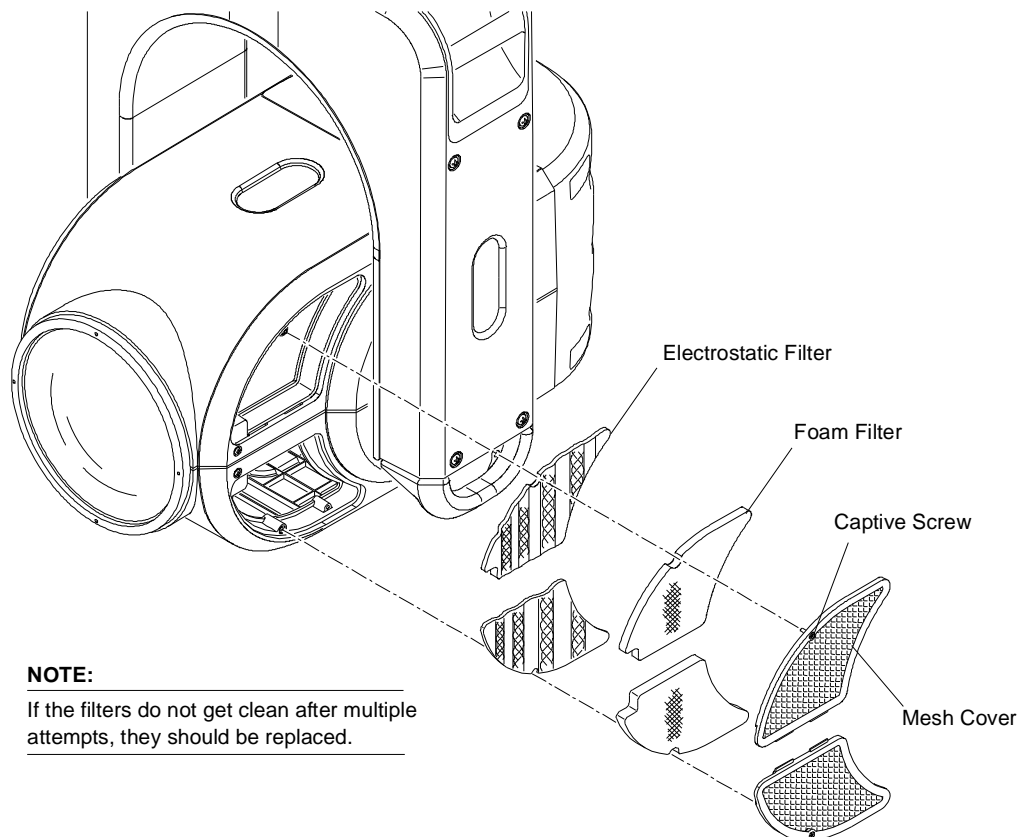

Figure 3-5: Removing Head Filters
- Step 2. At each mesh cover, loosen one captive screw (**Figure 3-5**).